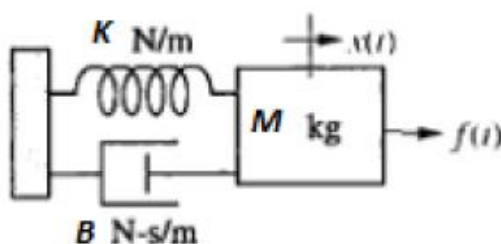
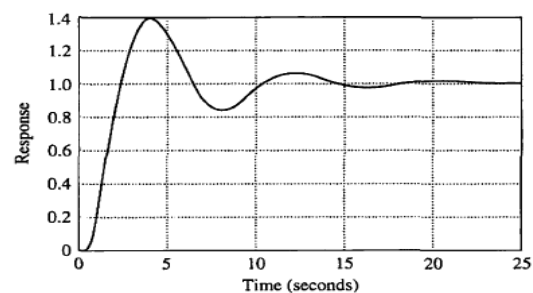

Figure 7
Figure 8
- 3B. Unit step response of a mechanical vibratory system (figure 7) is shown in the figure 8. Determine the values of M , K and B